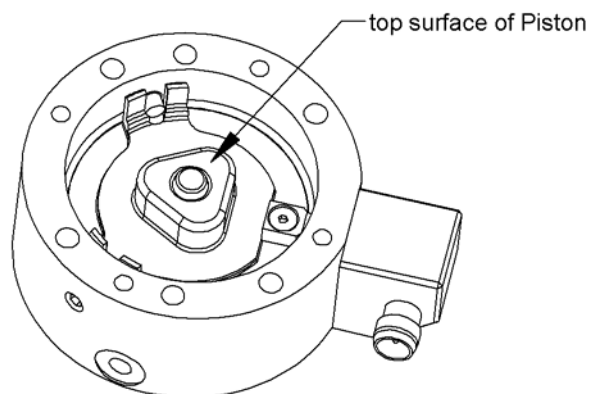

Figure 5.6—Cleaning and Re-lubricating Top Surface of Piston
5. Clean the lubricant from the top surface of the Piston (see Figure 5.6).
1. Apply a generous coating of CRC Extreme Pressure Moly C.V. Joint Grease (Moly Grease) to the top surface of the Piston (see Figure 5.6).